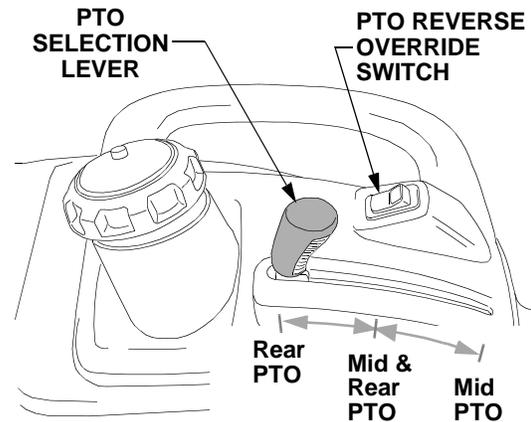

Figure 19
equipment designed to operate at an input speed of 540 RPM. See Figure 19.
- Shift the PTO lever forward to select the mid PTO. The mid PTO is used to drive equipment designed to operate at an input speed of 2000 RPM. Refer to Figure 19.
- Shift the PTO lever to the middle position to select both the mid PTO and rear PTO. The mid PTO and rear PTO will run simultaneously when the PTO switch is activated. Refer to Figure 19.
The PTO reverse override switch, located on the *left* fender, allows the PTO to operate while the tractor is traveling in the reverse direction. Refer to Figure 19.